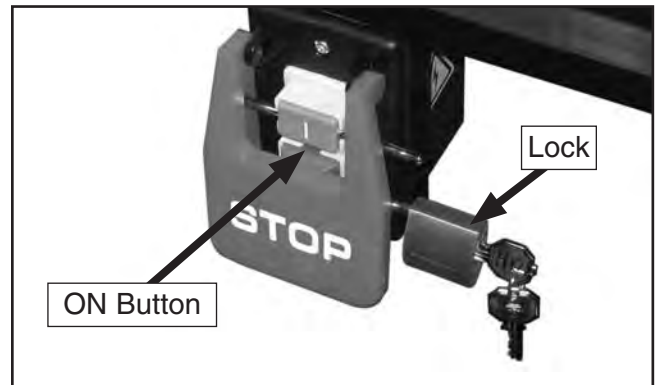

Figure 35. Switch disabling lock inserted into ON button.
8. Insert the switch disabling lock through the green ON button, as shown in **Figure 35**.